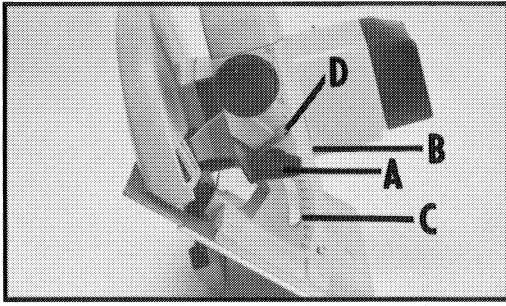

Fig. 7
2. Loosen the bevel adjusting knob (A), Fig. 7.
3. Swing the base until the indicator (B), Fig. 7, lines up with the desired graduation line on the angle segment (C), and tighten knob (A).
4. Your saw is equipped with an adjustable positive stop at the 45 degree bevel position. After making a preliminary setting following the above steps, make a cut on a piece of scrap wood and check the accuracy of the setting. Turn set screw (D), Fig. 7, inward or outward as needed to produce a true 45 degree bevel cut. With the set screw (D) accurately positioned, the base will return to the same 45 degree setting without need for visual alignment of the graduation markings.